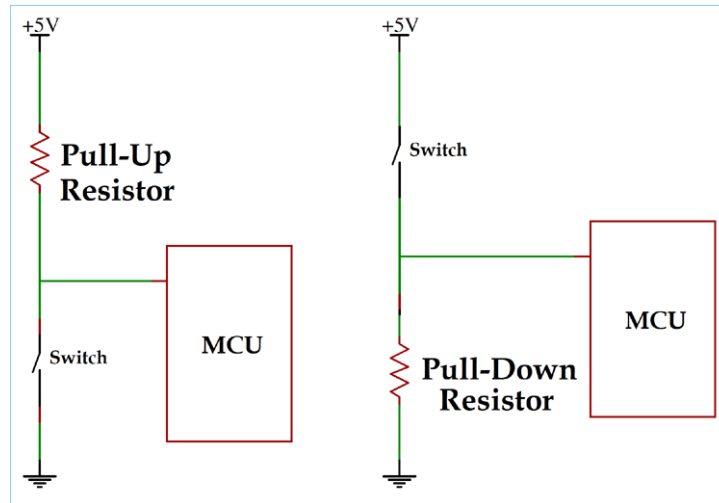

Figure 12 Pull up and pull down resistor connection
Pull-up and Pull-down resistors (Figure 12) are used to correctly bias the inputs of digital gates to stop them from floating about randomly when there is no input condition. When the switch is open, the voltage of the gate input is pulled up to the level of the input voltage. When the switch is closed, the input voltage at the gate goes directly to the ground. So, pull up makes high output (1) in normal condition (unpressed button) and low output in pressed condition. Similarly, pull down makes low output (0) in normal condition (unpressed button) and high output (1) in pressed condition.